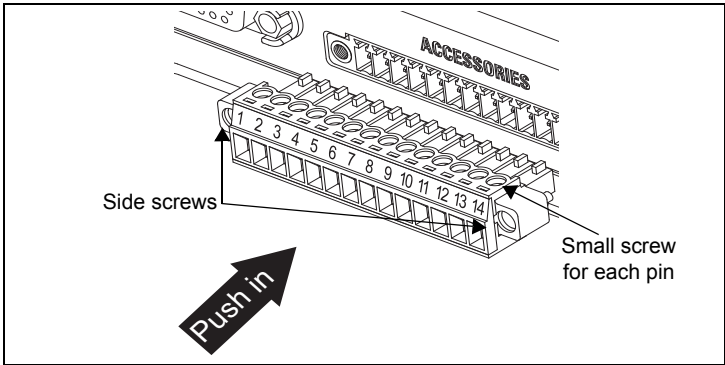

Figure 10: Accessories Plug Installation
3. Screw in the small screw for each pin after wire is inserted to ensure it is securely fastened. See Figure 10.